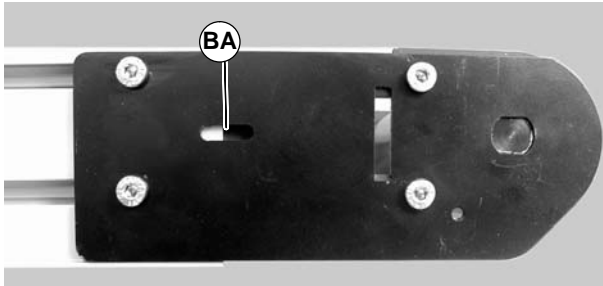

Figure 35
3. Extend head plate assembly until proper tension in the belt is achieved. If proper tensioning can not be obtained before the belt life indicator is all black (BA of Figure 35) the belt must be replaced.